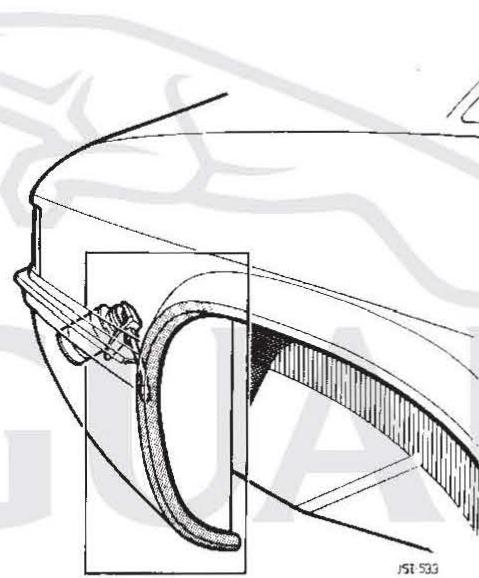

FIG 2
- b) Apply sealant where indicated, Fig 2. e.g. 3m Drip-Chek Regular with gun applicator.